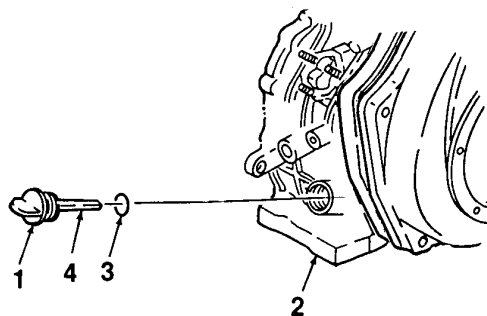

Figure 3-9. Oil Fill Cap
Remove engine oil fill cap (1, Figure 3-9) from engine block (2). Remove O-ring (3).
1. Inspect oil fill cap (1, Figure 3-9) for obvious damage. Check oil level gauge (4) for security of attachment to cap. Inspect for corrosion.
2. Inspect O-ring (3) for cuts, tears, or permanent set. Replace O-ring if it will not allow a proper seal.
1. Apply a light coat of lubricating oil to O-ring (3, Figure 3-9) and install into oil fill port.
2. Insert engine oil fill cap (1) into engine block (2).